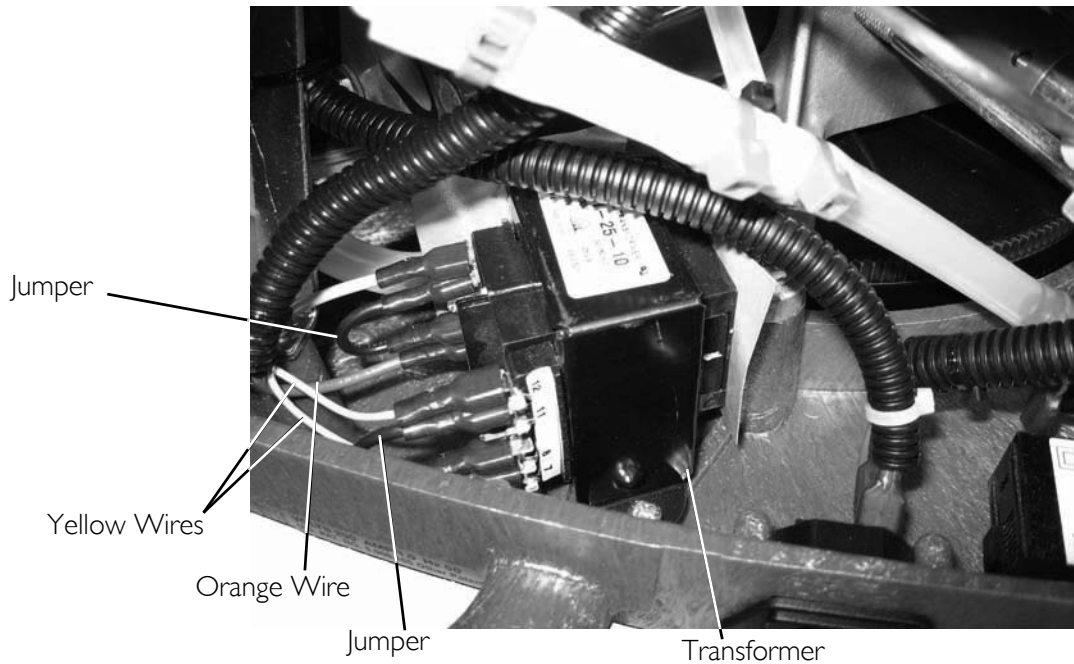

FIGURE 9.4 Motor Replacement
12. Using diagonal cutters, cut the tie wrap that secures the inlet hose to the inlet of stage 1 (FIGURE 9.4).
13. Disconnect the oxygen inlet hose from the inlet of stage 1 (FIGURE 9.4).
14. Using diagonal cutters, cut the tie wrap that secures the oxygen inlet hose to the receptacle fitting (FIGURE 9.4).
15. Remove the oxygen inlet hose from the receptacle fitting (FIGURE 9.4).
16. Using diagonal cutters, cut the tie wrap that secures the oxygen sensor tubing to the oxygen inlet hose (FIGURE 9.4).
17. Remove the oxygen sensor tubing from the oxygen inlet hose (FIGURE 9.4).
19. Using needle nose pliers, disconnect the connectors from the transformer. See Detail "A" in FIGURE 9.4.
20. Using needle nose pliers, disconnect the two connectors from the power inlet (FIGURE 9.4).
21. Using needle nose pliers, disconnect the two connectors (not shown) from the hour meter (FIGURE 9.4).
22. Lift control panel assembly off of base and set aside (FIGURE 9.4).
8. Position control panel assembly on base (FIGURE 9.4).
9. Connect the two connectors (not shown) to the hour meter (FIGURE 9.4).
10. Connect the two connectors to the power inlet (FIGURE 9.4).
11. Connect the four connectors to the transformer as noted in STEP 18 on page 54 (FIGURE 9.4).
12. Connect the oxygen sensor tubing to the oxygen inlet hose and secure with tie wrap (FIGURE 9.4)
13. Connect the oxygen inlet hose to the receptacle fitting (FIGURE 9.4).
14. Secure the oxygen inlet hose to the receptacle fitting with a tie wrap (FIGURE 9.4).
15. Connect the oxygen inlet hose to the inlet of stage 1 (FIGURE 9.4).
16. Secure the hose with a tie wrap using a tie wrap gun set at #8 (FIGURE 9.4).